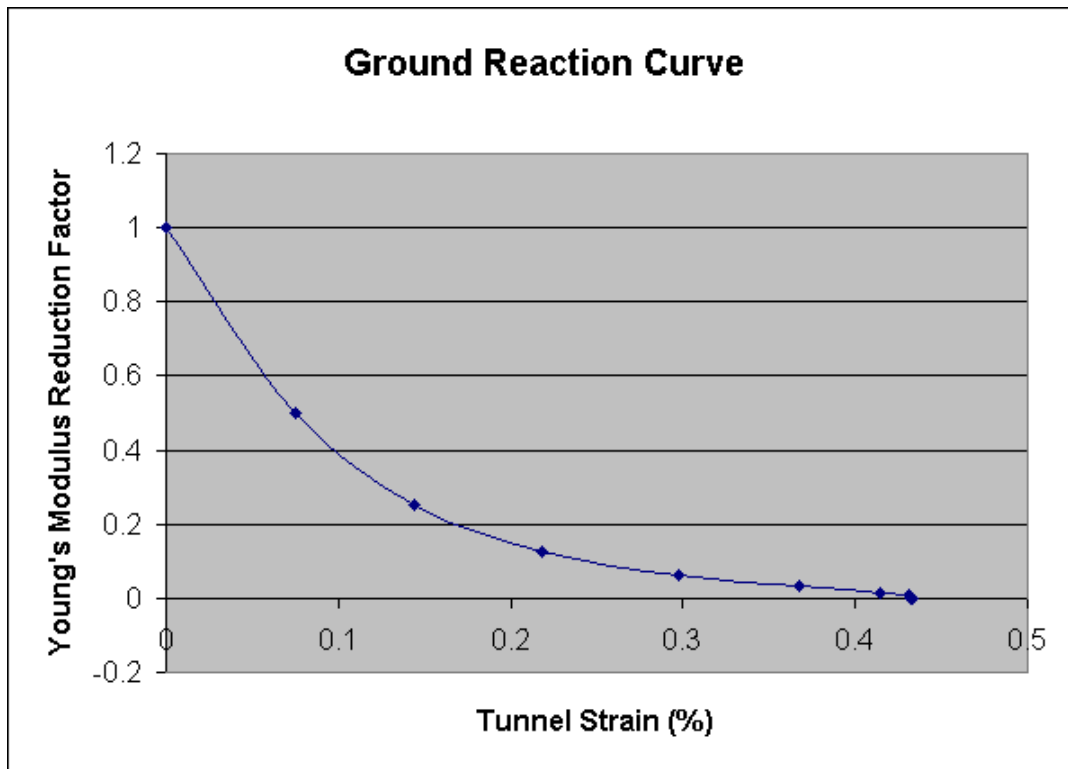

Figure 1: Ground reaction curve obtained using staged material softening (modulus reduction).
- 1) First, create a staged model in which the modulus of the excavation material is successively reduced, until the material is excavated. This allows you to construct a “ground reaction curve”, which is a plot of the boundary displacement (convergence), versus the material modulus at each stage. See Figure 1.